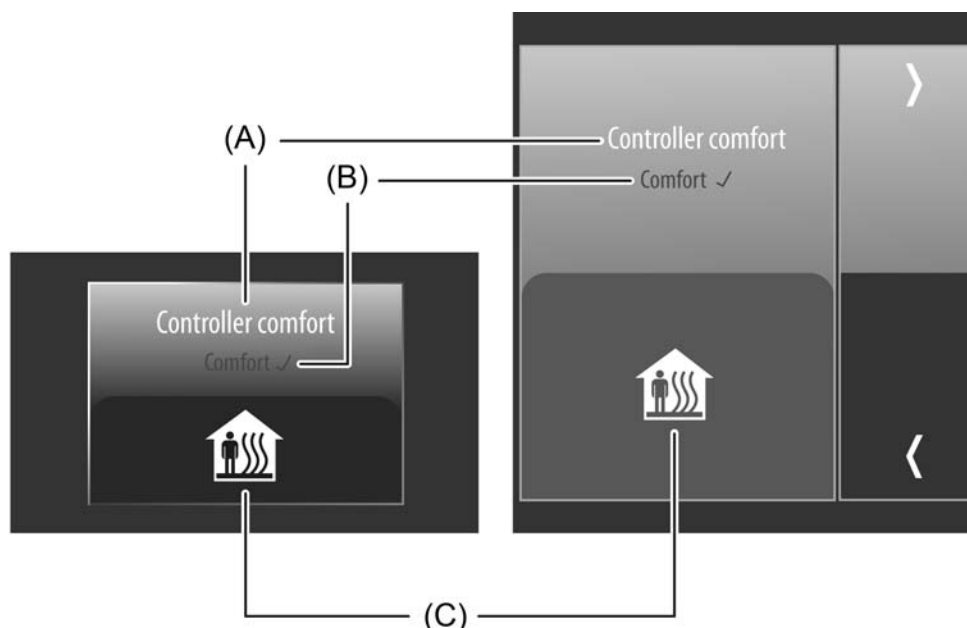

Figure 44: Example of an operating and display element of the channel function "operating mode switchover, internal"
The display area contains different display elements (figure 44) that are influenced by ETS parameters. A name can be assigned to each KNX channel in the ETS (A). This text name is centred in the display element for display whereby controllable KNX functions are identified for the user. The name should be selected in such a way that the user knows clearly which operating mode is recalled after executing an operation on the controller (e.g. "Controller comfort").